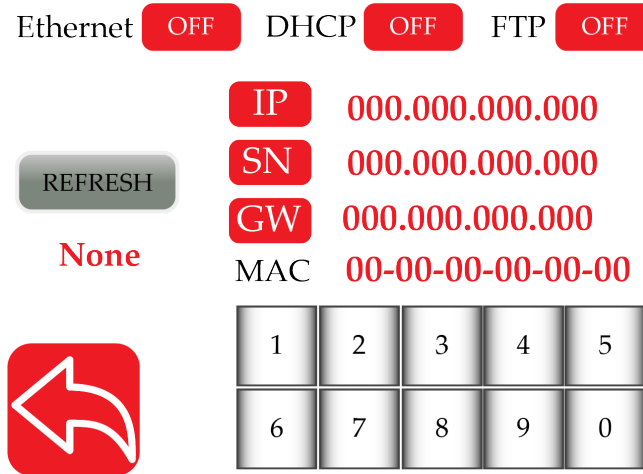

Figure 5.95: Power User: Communication Screen without ethernet module being enabled.
If the module is OFF then this screen will have all the values as zero as shown in Figure 5.95
- If the Roll-2-Roll[®] Controllers do not have the ethernet module enabled, the industrial ethernet protocol type will appear as None, as illustrated in Figure 5.95.